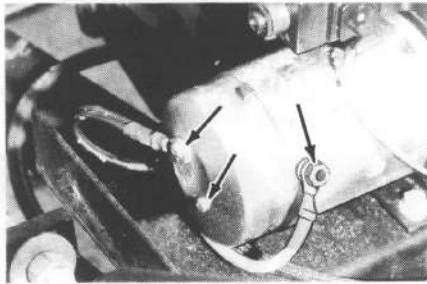

Figure 2-28
2. Remove the motor terminal nut and remove power lead. See Figure 2-28.
3. Remove two screws and remove the motor protective cover. See Figure 2-28.